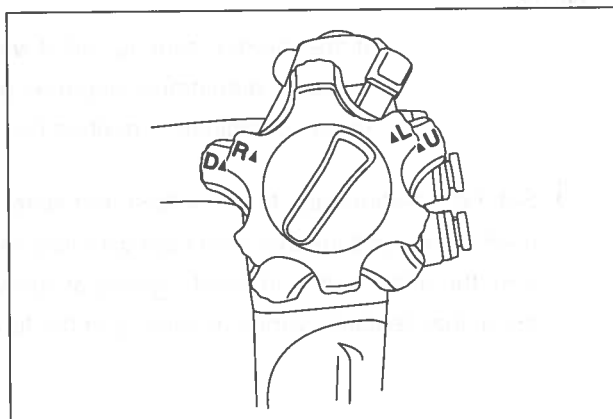

Figure 3.6
3. Turn the UP/DOWN and RIGHT/LEFT angulation control knobs clockwise to their respective neutral positions as shown in Figure 3.6. Confirm that the bending section returns smoothly to an approximately straight condition.